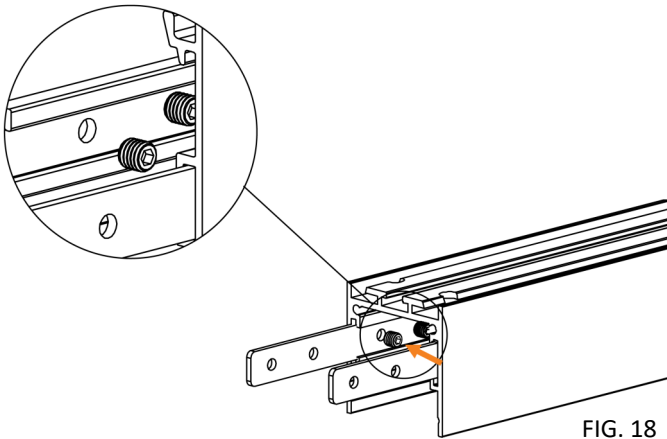

FIG. 18
- Remove the cover. Alling and slide the end-to-end brackets in the corresponding slots (Fig. 18).
- Using the provided grub screw and allen key, fasten the end-to-end brackets in place. (Fig. 18 /19)